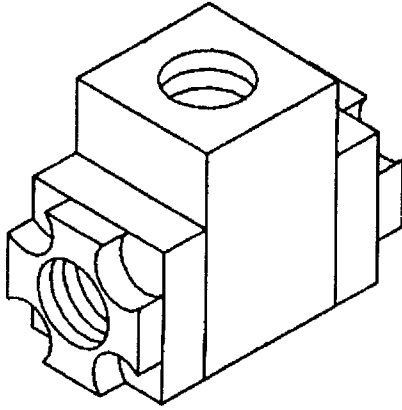

FIGURE 4-5 - SHUTTLE VALVE
Shuttle Valve - (Figure 4-5) Also known as a double check valve, the shuttle valve is a device which will take two (2) supply signals and allow the one with the highest pressure to pass through. The shuttle valve is used to provide control air pressure from either the reservoir or plant air system, as required during different operating